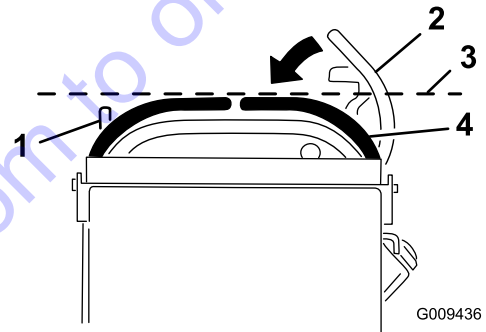

Figure 44
2. Push the motion-control levers down out of the NEUTRAL-LOCK position (Figure 44).
3. Check if the right motion-control lever aligns horizontally with the left motion-control lever (Figure 44).